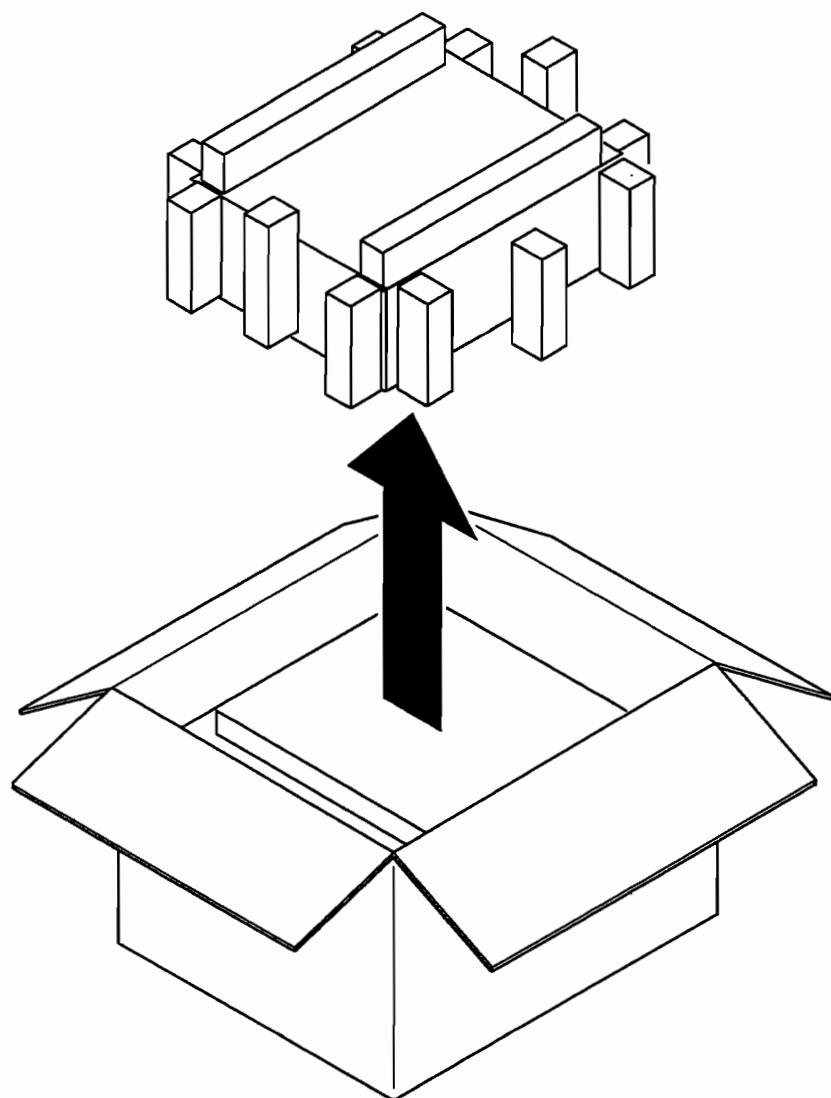

Figure 2-3. Removing Packing Material
2. Remove the packing material as shown in figure 2-3.